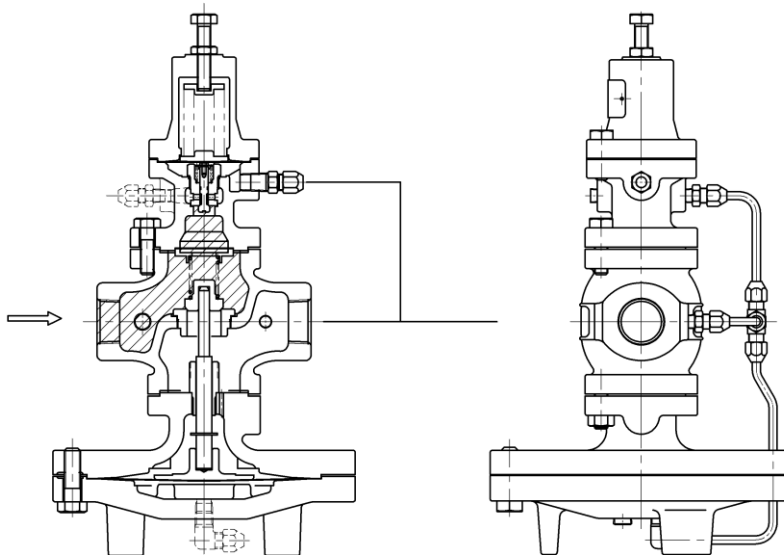

Fig. 1
- (1) When the adjusting spring [24] is free of load, the main valve [6] and pilot valve [17] are closed. When opening the gate valve slowly and allowing high pressure fluid to flow in, inlet pressure is applied to upside of the main valve and high pressure fluid passes through the screen [15] to also apply the inlet pressure to downside of the pilot valve (see Fig. 1 below).